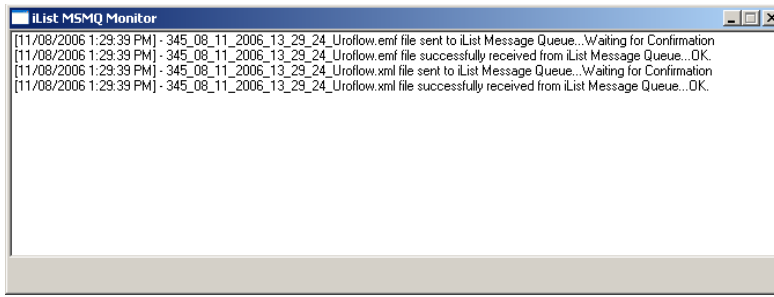

Figure 156: iList MSMQ Monitor
2. Click on the name of the event to export (Figure 156).
3. A message of successful transfer and receipt is visible in the *i-List MSMQ Monitor* window (Figure 156).